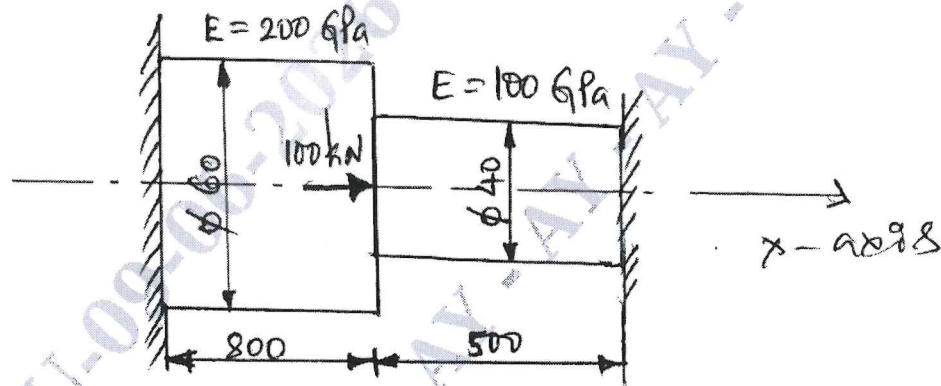

Fig. Q.4(c)
- c. Determine the nodal displacements of stepped bar using FEM, as shown in fig.Q. 4(c)